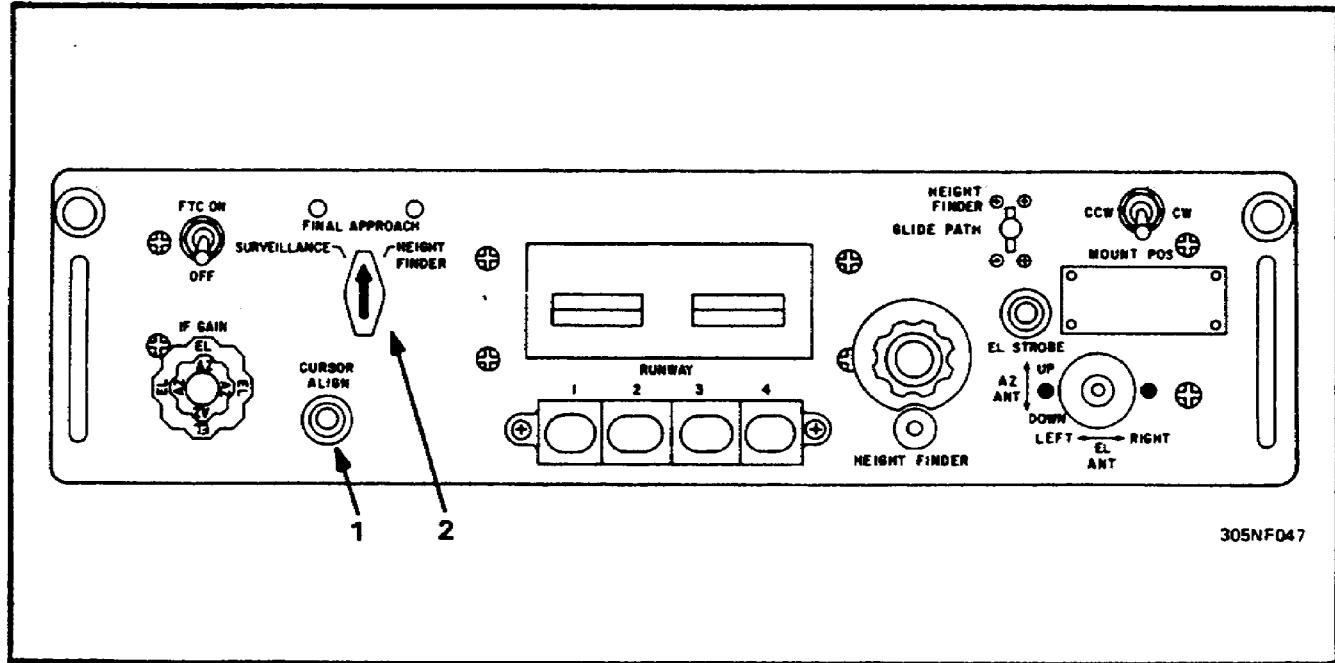

Figure 36. Control, radar set C-2074A/FPN-33.
m. Locate the following on control, radar set C-2074A/FPN-33. (See Figure 36.)
- (1) CURSOR ALIGN switch S2807.
- (2) SURVEILLANCE-FINAL APPROACH-HEIGHT FINDER switch S2802.
n. Place the SURVEILLANCE-FINAL APPROACH-HEIGHT FINDER switch S2802 on control, radar set C-2074A/FPN-33 to the FINAL APPROACH position. (See Figure 36.)
- CURSOR ALIGN switch S2807 (Figure 36)
- SURVEILLANCE-FINAL APPROACH-HEIGHT FINDER switch S2802 (Figure 36)